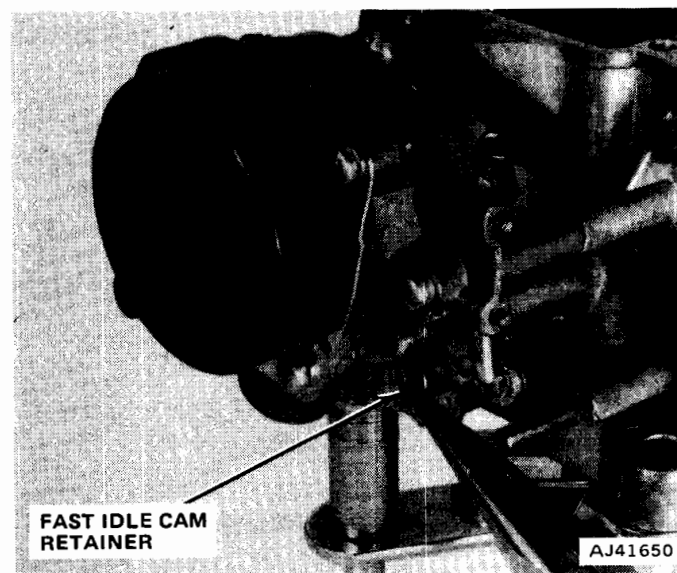

Fig. 4-44 Removing Fast Idle Cam Retainer
(7) Remove fast idle cam retainer (fig. 4-44).